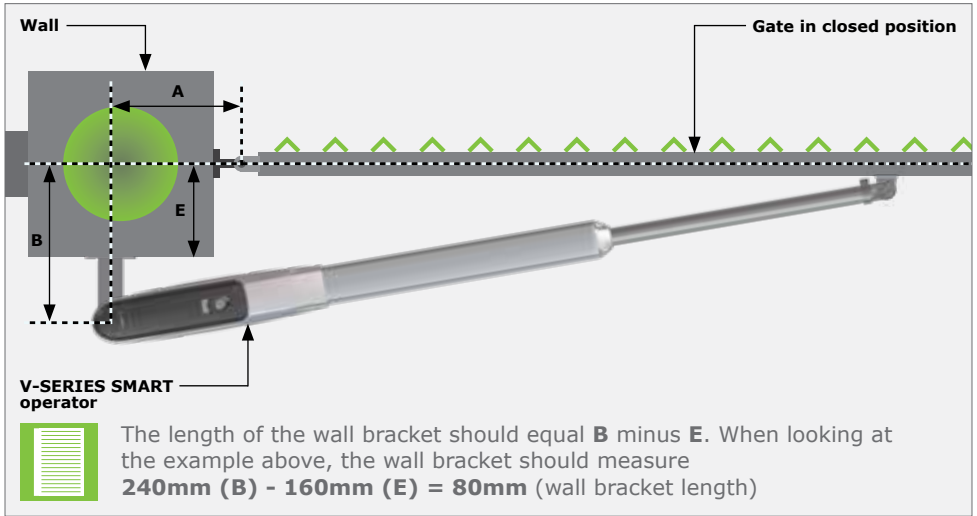

FIGURE 18. BRACKET POSITION - INWARD-OPENING GATE
Figure 18 illustrates the values corresponding to the **Inward-Opening** Gate Installation Tables.
1. Refer to Figure 18 above.